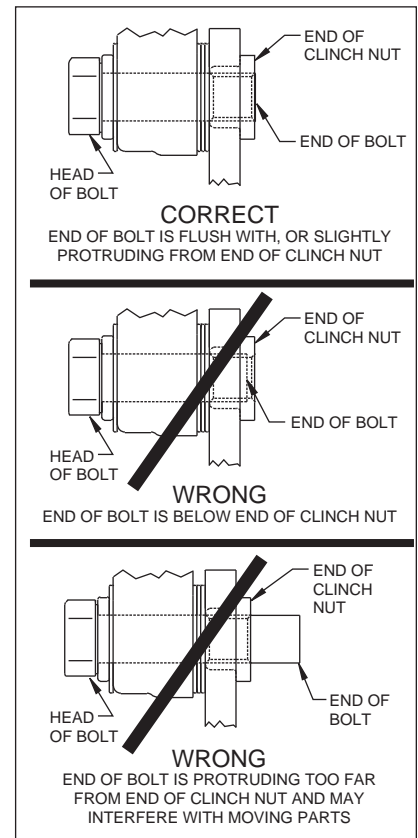

Figure 4.
- Pack the small outer bearing cone (14) with high temperature disc brake bearing grease and install into front of hub (7). Slide the hub/rotor assembly (7 and 11) with outer bearing cone (14) onto the spindle. Secure using stock washer, adjusting nut and nut locking device. Adjust bearings per Original Equipment Manufacturer (OEM) specifications.
- Install the dust cap (15) onto the hub (7). Friction created by the o-ring (16) on the dust cap (15) keeps it from unscrewing. The O.D. of the existing spindle washer may be larger than the I.D. of the dust cap (15) not allowing it to seat against the hub face. Some grinding on the washer O.D. may be necessary to clear the I.D. of the dust cap (15).
- NOTE:** Please reference the caution statement at the beginning of the assembly instructions. Mount the caliper (17) onto the caliper bracket (1) using washers (18) and bolts (19). Finger tighten. View the rotor (11) through the top opening of the caliper (17). The rotor (11) should be aligned in the center of the caliper (17). If not, adjust the caliper (17) by using 0.032 inch thick shims (20) placed between the caliper mounting bracket (1) and the caliper (17). Finger tighten and recheck alignment. Use as many shim washers (20) as necessary to achieve the correct alignment. Add as many shim washers (20) as necessary to achieve the correct alignment. **NOTE:** The end of the bolt must be flush with or slightly protruding from the head of the clinch nut. See Figure 4. Place spare shims (20) between washer and caliper mounting ear to achieve the proper mounting fastener configuration. Always use the same amount of shims on both the top and bottom caliper mounting bolts (19). Apply red Loctite® 271 to bolt threads (19) and torque to 40 ft-lb. Caliper mount bolts may be safety wired for additional security.
- Install the disc brake pads (21) and secure using cotter pin (22).